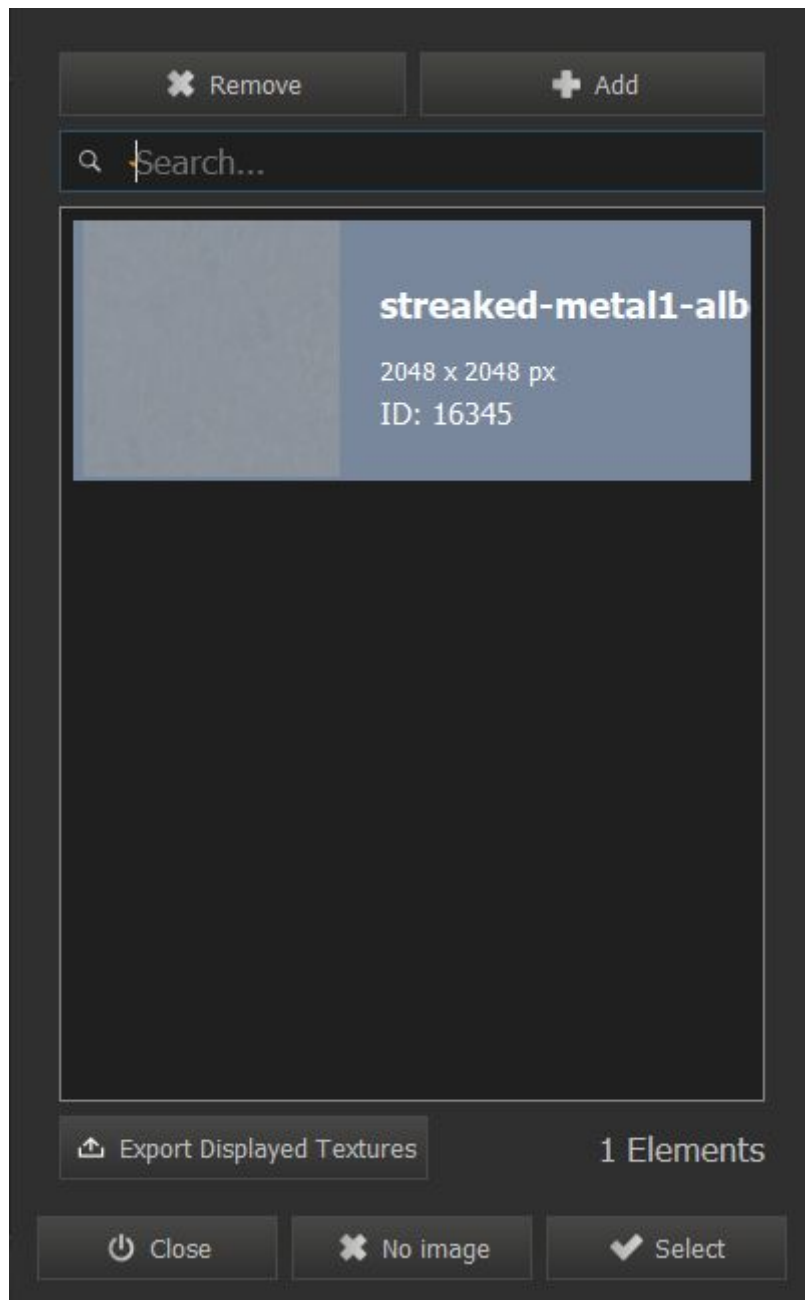

Figure 13. Texture library window.
- Click on the desired texture to be loaded in the slot and press SELECT like in Figure 13.
UV mapping is a technique that maps materials to a mesh. Unwrapping can be done automatically in PiXYZ using any of the functions under UV->GENERATE UV BY PROJECTION. The only parameter that has to be changed is the UV 3D size, which determines how stretched the material is on the surfaces. An example of the window is shown in Figure 13.